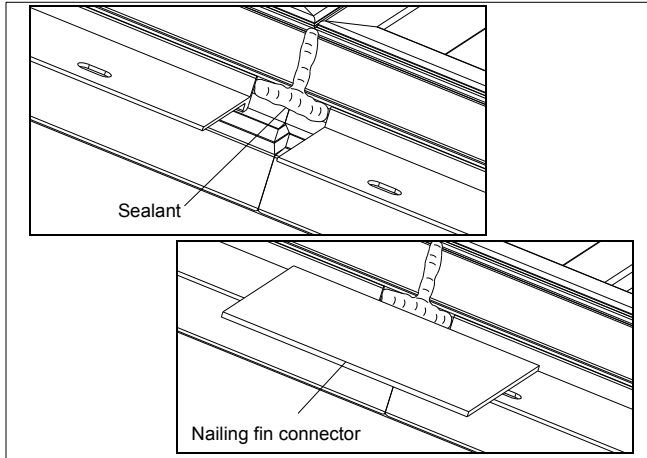

Figure 11
7. Apply silicone sealant at the mullion from the frame exterior edge to the drip cap/nauling fin kerf and across the kerf over the mulling pin as shown in figure 11. Apply nauling fin connectors at the head jamb and sill or jambs by removing the paper backing from the connector and pressing into place. See figure 11. If applicable jamb extension can now be applied. Follow installation instructions for installing unit into rough or masonry opening. Interior mull trim should be applied after unit is completely installed and interior trim is applied.